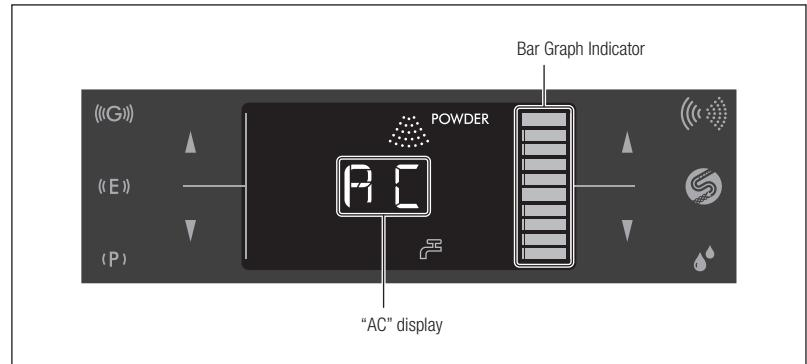

Fig. 37
- 6) Auto-Cleaning takes about 45 seconds. "AC" is displayed on the LCD Panel during Auto-Cleaning and the approximate remaining time is displayed by the Bar Graph Indicator (Fig. 37).